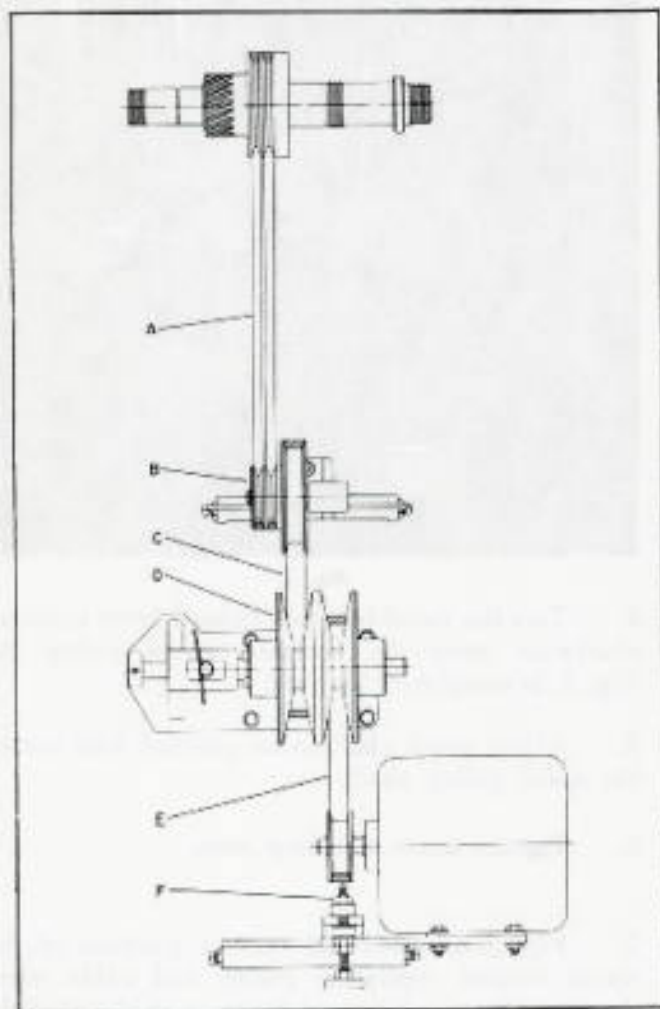

Fig. 4.
2. Remove the two spindle V-belts (A) Fig. 4, from the jackshaft pulley (B). Place the upper variable speed belt (C) on jackshaft pulley (B) and variable speed pulley (D), as shown in Fig. 4. Then reassemble the two spindle V-belts to the jackshaft pulley as shown.
3. Place lower variable speed belt (E) Fig. 4, on the variable speed pulley (D). Remove nut, washer, and rubber bumper (F) from the motor mounting plate to allow belt to be placed on motor pulley. Lower variable speed pulley to assist in this operation. Replace nut, washer, and rubber bumper (F) Fig. 4.